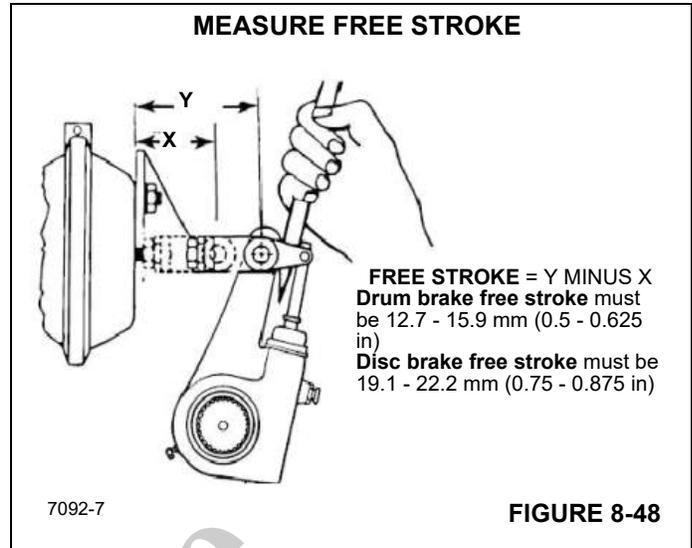

FIGURE 8-48
- Measure the distance from the center of the large clevis to the air chamber mounting face with the brake fully released. This is Dimension "X" in (Figure 8-48).
- Using a pry bar, move the slack adjuster so that the linings contact the drum. Measure the distance between the same points as in Step 4. This Dimension is "Y" in (Figure 8-48).